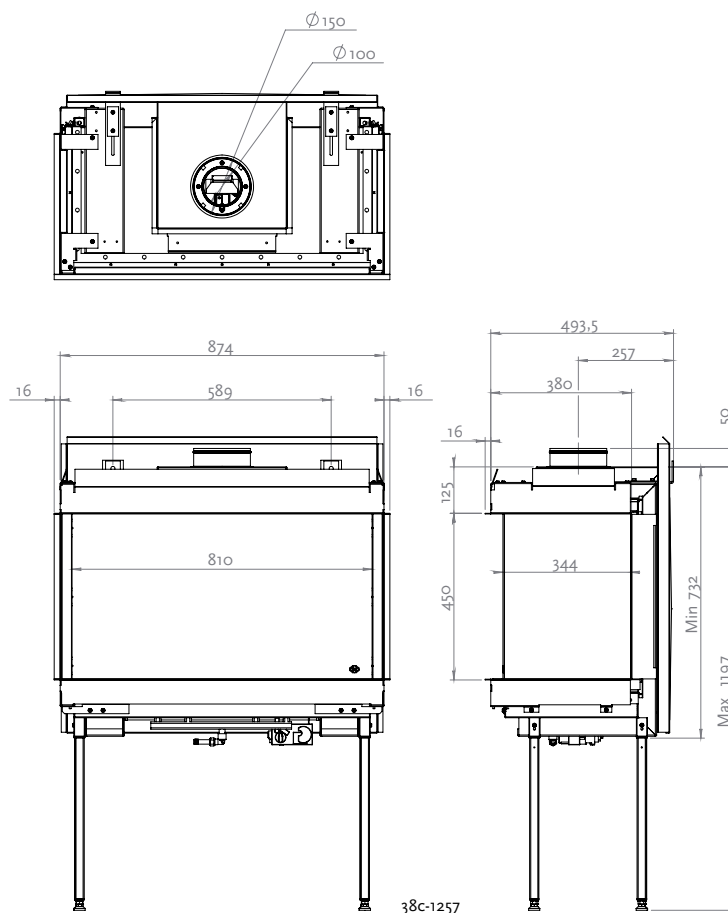
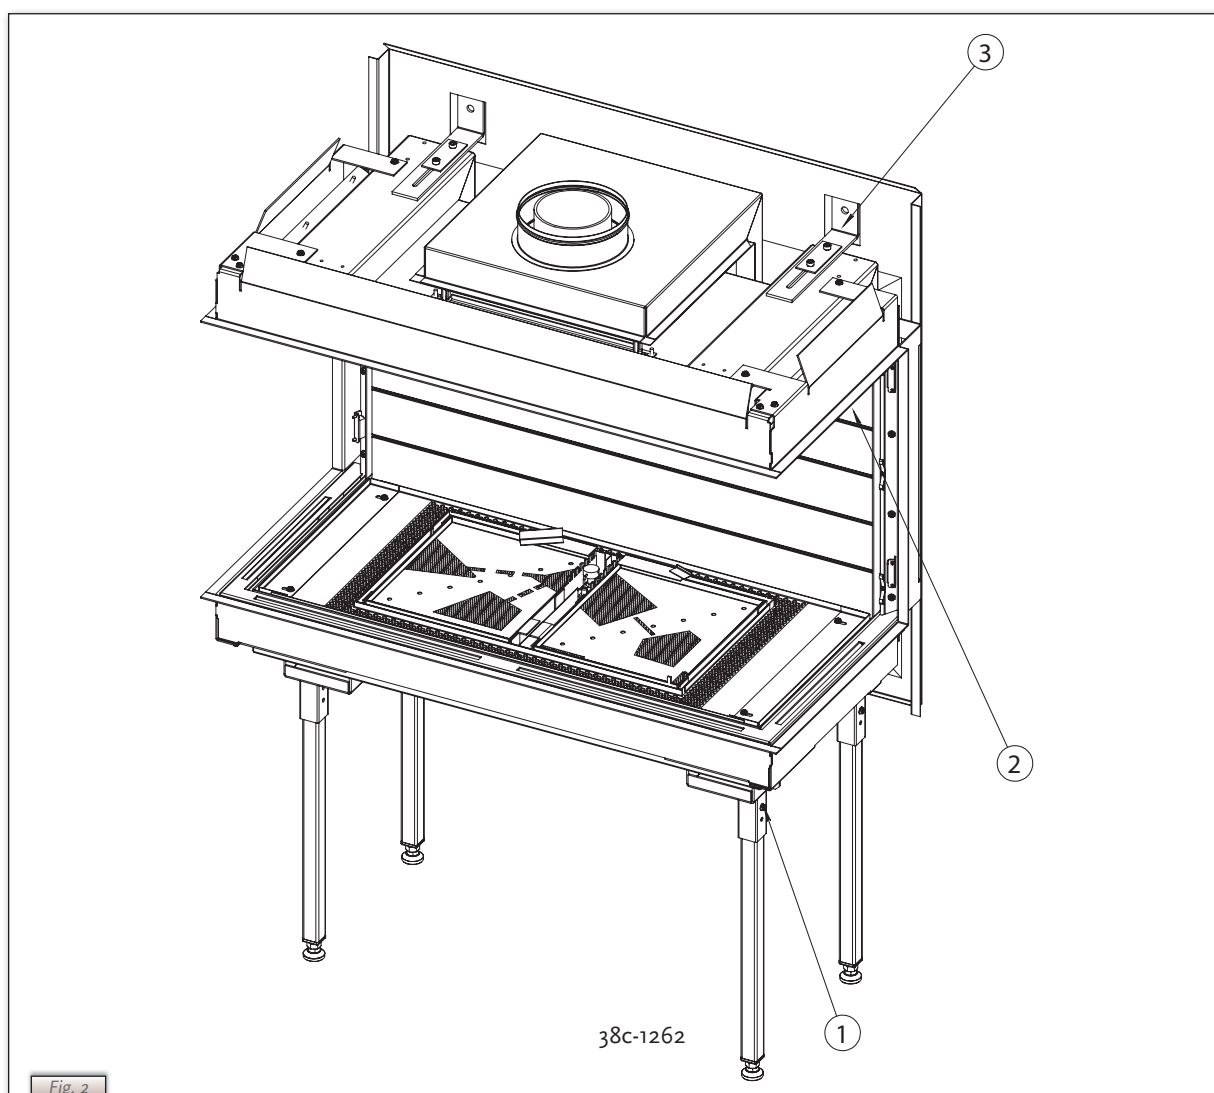

Fig. 1
Fig. 2
- Take the build-in height of the appliance into account; it depends on the length of the adjustable legs (see *fig. 1*). If necessary, the legs can be shortened. They must be fixed with self-boring parkers (see *fig. 2*);
➡ **Connect the appliance to the wall using the wall brackets and the wedge bolts supplied; see fig. 2.**